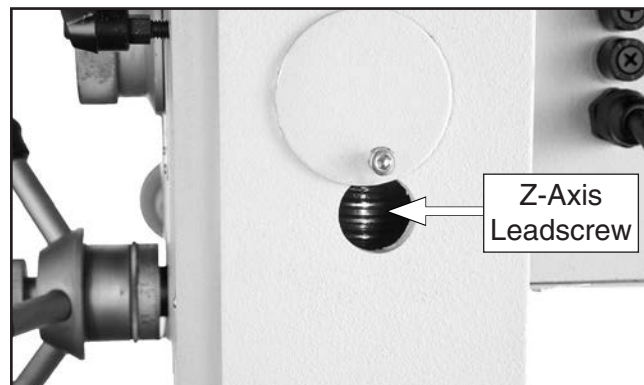

Figure 37. Z-axis leadscrew lubrication point.
3. Use mineral spirits and a brush to clean as much existing grease and debris off of Z-axis leadscrew shown in **Figure 37** as possible. Allow leadscrew to dry.